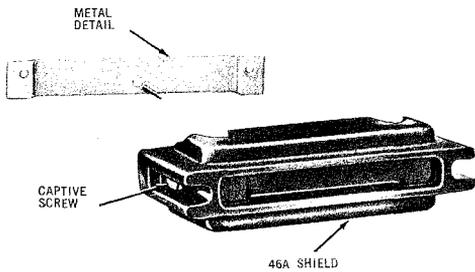

Fig. 9 - 46A Shield
3.05 The *46A Shield* (Fig. 9) consists of a shield of insulating material containing two captive screws and a metal mounting strap.